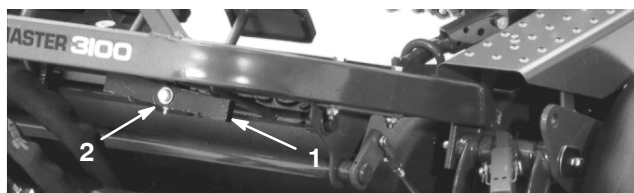

Figure 47
1. Loosen the nut on the back side of the lift pivot (Fig. 47).
2. Rotate the eccentric screw (Fig. 47) to raise or lower the lift pivot spring, leveling the lift pivot and pedals.